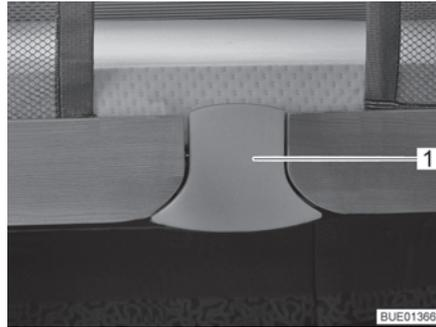

Fig. 118 Release
- Pull out the release plate (Fig. 118,1) at the bottom. The lock is released.